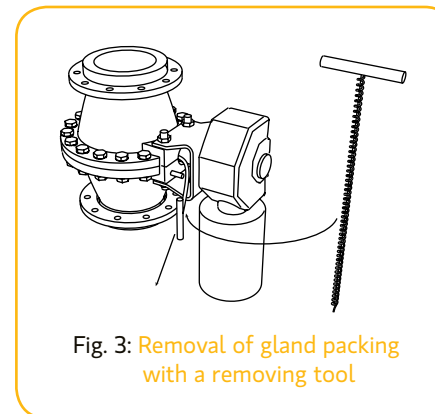

Fig. 3: Removal of gland packing with a removing tool
If the gland packing leaks after the nuts have been tightened to the values indicated in item 5.4.1, change the packing. The valve must not be under pressure when this is done. The change can be carried out without removal of the actuator because cut packing rings have been used. Remove the old packing with a flexible removal tool; see Fig. 3. Install the new packing as instructed in item 5.4.